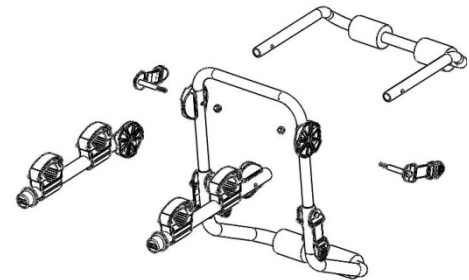

Fig. 3
- Attach each Inner Support (marked with a "B") to middle support tube as shown with through holes lined up. (Fig. 3). Attach the outer supports (marked with an "A") to each Support Arm. Slide Top Support into one of the Support Arms so that the through holes are aligned. Slide Buckle Assembly onto the 5/16"-18 Hex Head Cap Screw (larger screw) and insert the screw through the through hole in the Support Arm Frame, Supports and the top Main Frame hole. (Fig. 3/4) Repeat for other side. (Fig. 3/4)